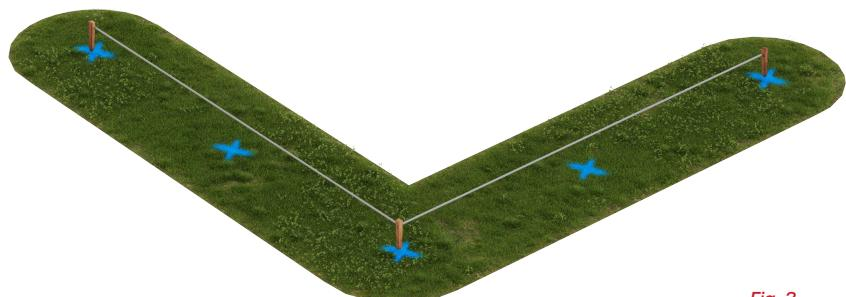

Fig. 3
3. Once the string line is in place, measure along the line and mark where the post centres will be located with spray paint or a marker peg. *Fig. 3*